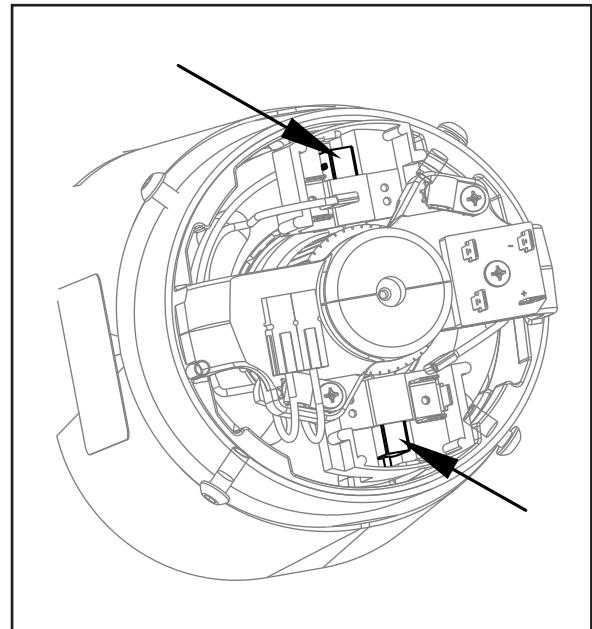
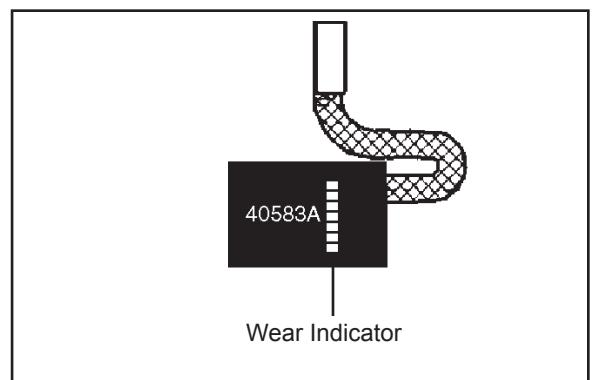

Figure 8.1
Figure 8.2
**CARBON BRUSHES (FIGURES 8.1 AND 8.2)**
Replace the carbon brushes (see figure 8.1) every 350-400 hours depending on use. Replace both brushes if either has worn to the wear indicator (see figure 8.2). Have the commutator turned and undercut every 3rd replacement.